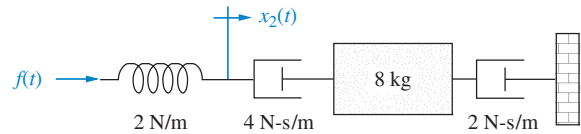

FIGURE P2.11
26. Find the transfer function,  $G(s) = X_2(s)/F(s)$ , for the translational mechanical system shown in Figure P2.11. (Hint: place a zero mass at  $x_2(t)$ .) [Section: 2.5]